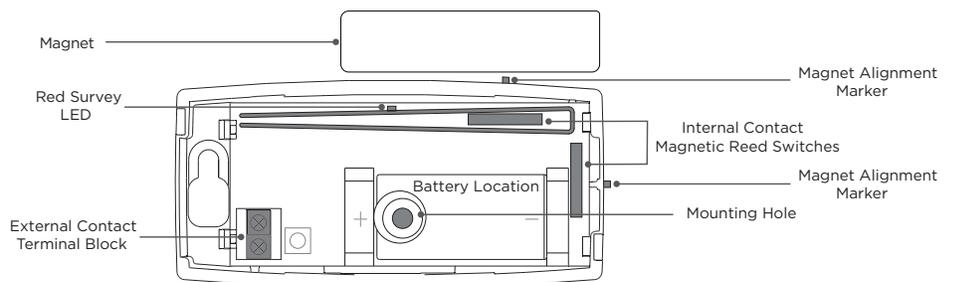
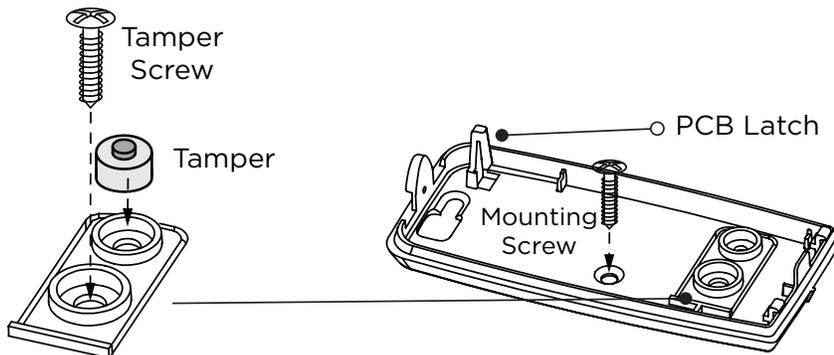

Figure 2: Transmitter Components
Figure 3: Mounting the Transmitter
2. Observing polarity, place the battery in the holder and press it into place. Refer to Figure 2 during installation.
When mounting the 1103, refer to Figure 2 and Figure 3 for battery and mounting hole location.
3. Insert the included tamper screw and tamper as shown in Figure 3.